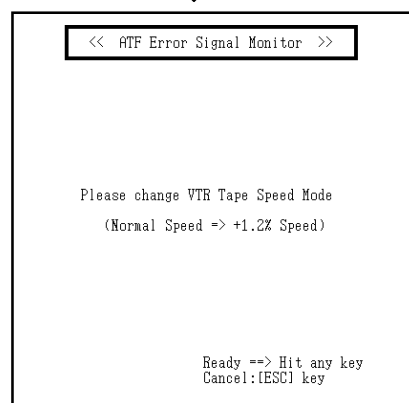

Figure 3-38-2
4. Select the LISTA (6) ATF Error Signal Monitor so that the screen of <ATF Error Signal monitor> appears. (refer to figure 3-38-2) Then press Enter to start the software.